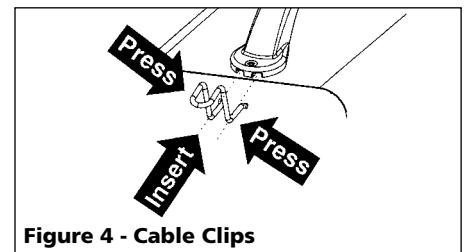

Figure 4 - Cable Clips
2. Insert cable clips by pressing inward on sides of clip and pushing into the slots on front of handle as shown in Figure 4. Repeat for opposite side of handle.